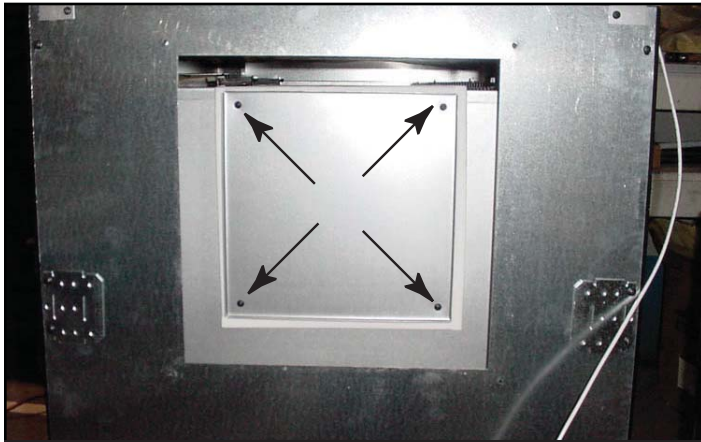

Figure 7.5 Outer Cover - Remove Four Screws
- Remove four screws holding outer cover to appliance back. See Figure 7.5. Remove outer cover (be sure to remove the insulation as well).